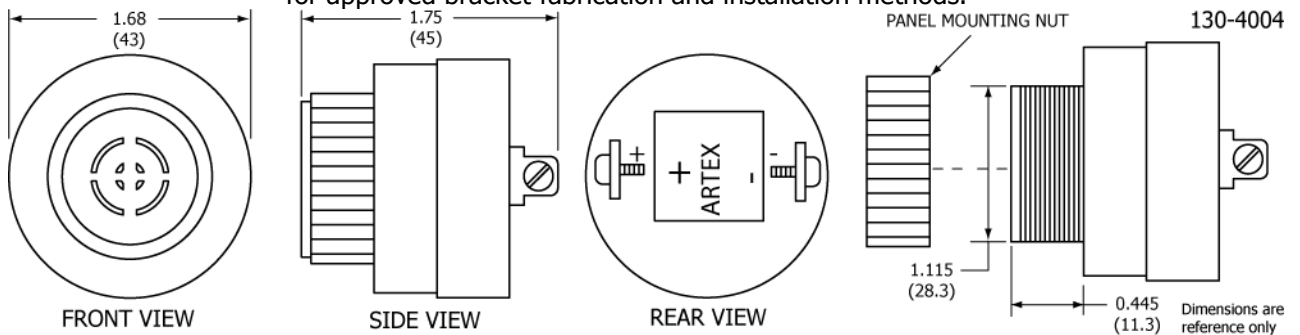

Figure 20 Buzzer Outline and Dimensions
- 1) Fabricate a bracket suitable for supporting the buzzer. See Figure 20.